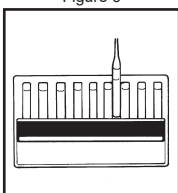

Figure 7
- Obtain a test result by placing the ampoule between the color standards until the best color match is found (fig. 7).